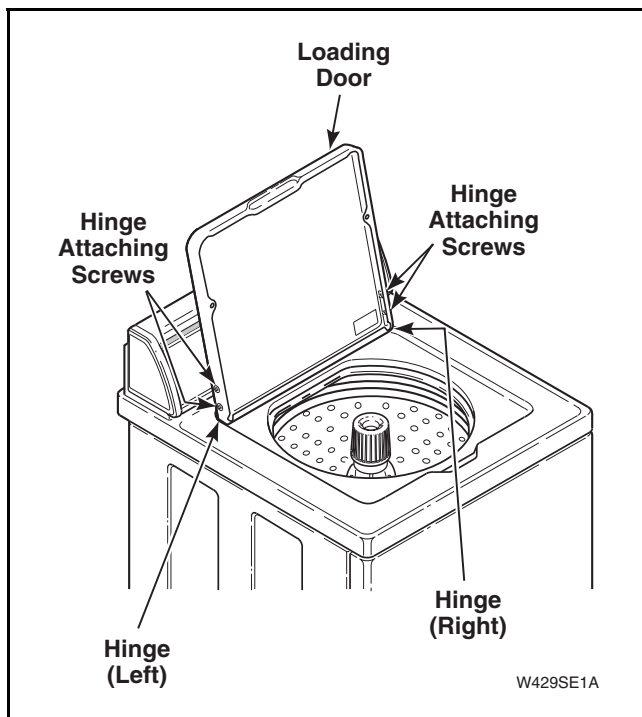

Figure 18
- Open loading door. Refer to *Figure 18*.
- Remove two screws holding left hinge to door and remove hinge. Refer to *Figure 18*.